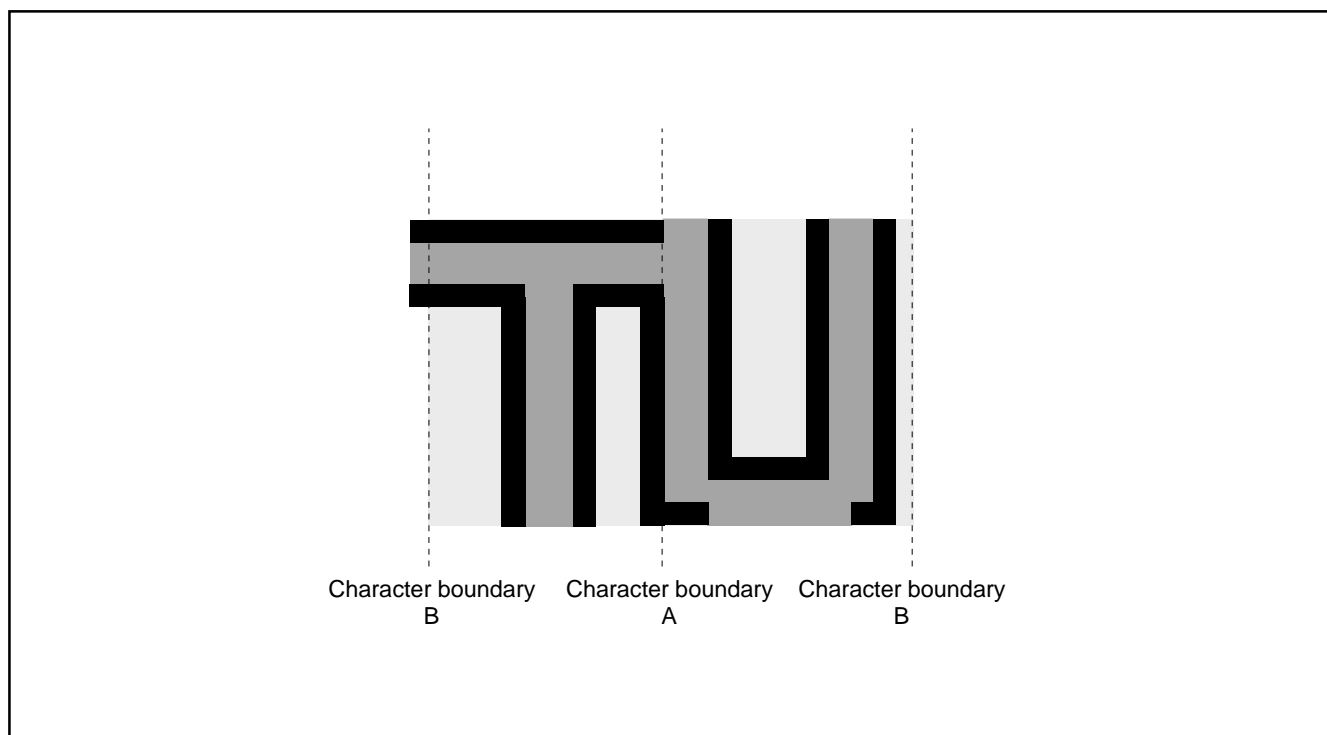

Fig. 8.10.23 Border Priority
**2 :** When the border dot overlaps on the next character font, the character font has priority (refer to Figure 8.10.23 A).
When the border dot overlaps the next character back ground, the border has priority (refer to Figure 8.10.23 B).
**3 :** The border in vertical out of the character area is not displayed (refer to Figure 8.10.23).